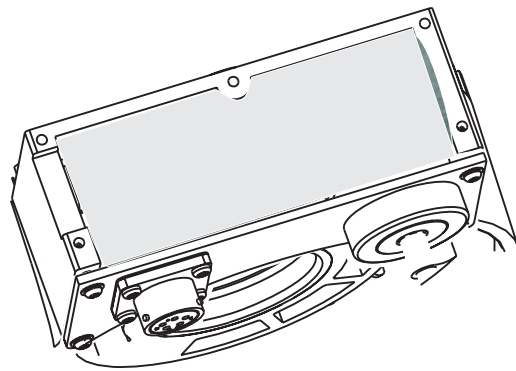

Figure 4 – Control Unit Filled with New Potting
10. Fill the cavity inside the control housing with GE Silicones® RTV11® silicone 2-part system (see Figure 4):